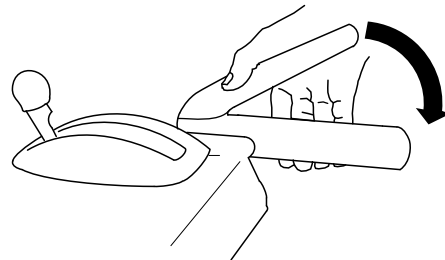

Figure 23
1. To engage the auger/impeller drive, squeeze the right (auger/impeller) lever to the handgrip (Figure 23).